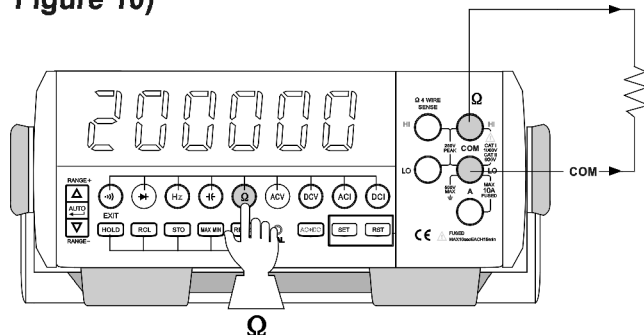
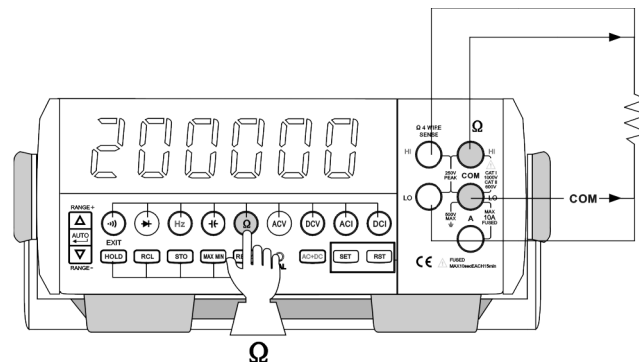

Figure 9
Figure 10
### 4. Resistance measurement (See Figure 9 and Figure 10)
1) The Figure 9 shows the Two-end resistance measuring method, with the resistance to be entered from the front panel. At this time, insert the red pen-shape meter into “V Ω Hz F  $\rightarrow$   $\rightarrow$ ” input port and the black pen-shape meter into “COM” input port;
4) The Figure 10 shows the four-end resistance measuring method. At this time, it should use two pairs of pen-shape